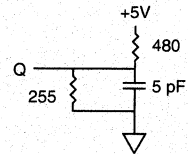

Fig. 2 OUTPUT LOAD EQUIVALENT
6. ^tHZCE, ^tHZOE and ^tHZWE are specified with CL = 5pF as in Fig. 2. Transition is measured ±500mV from steady state voltage.